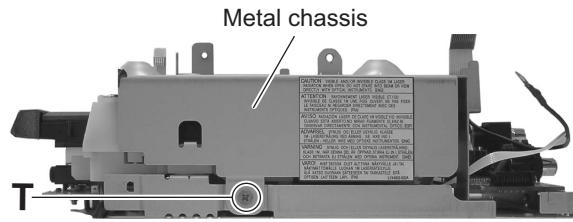

Fig.21
(See Figs.21 to 23)
- (1) From the right side of the main body, remove the screw **T** attaching the metal chassis. (See Fig.21.)